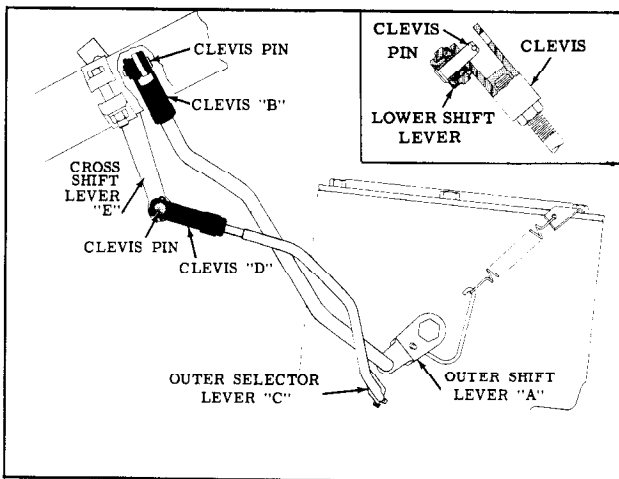

Fig. 11-1 Shift Lever Adjustment
Shift Lever Adjustment (Fig. 11-1)
4. Install clevis pin through lower shift lever from the bottom side, then adjust clevis so it slides over pin freely (Inset Fig. 11-1). Then shorten shift rod by turning clevis five and one-half turns.